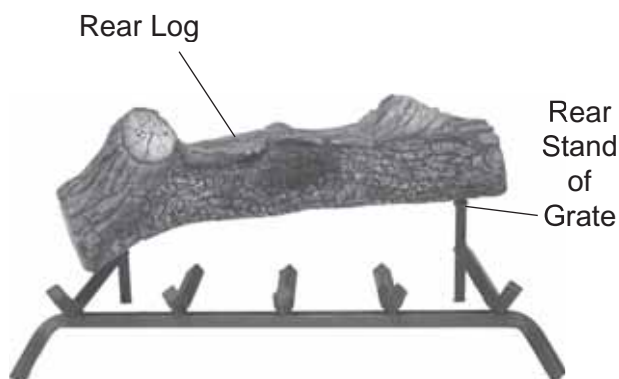

Figure 131 - Placing Rear Log #1 on Back Grate
2. Place Rear Log #1 on back of grate. Left side should fit on grate in front of rear stand. Right side goes on the rear stand of grate. *See Figure 131.*